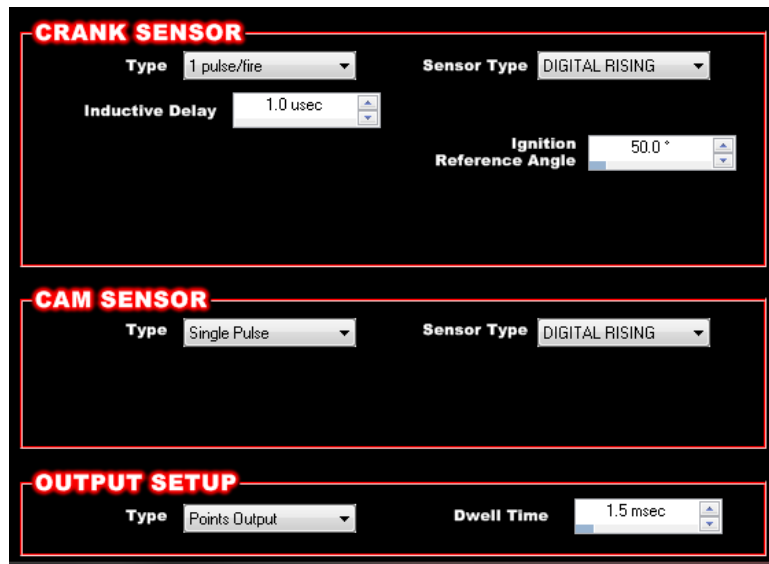

Figure 3
- B. Select the "Configure" tab and enter the information per Figure 3. This is assuming you are triggering an MSD/CD Ignition box.